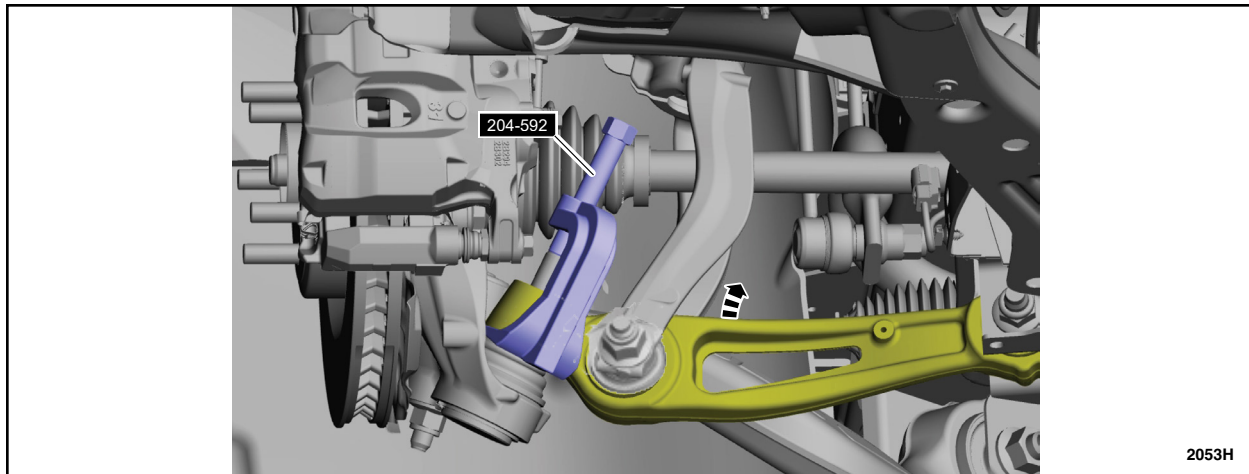

FIGURE 8
13. Separate the rear lower arm from the wheel Knuckle. See Figure 8.